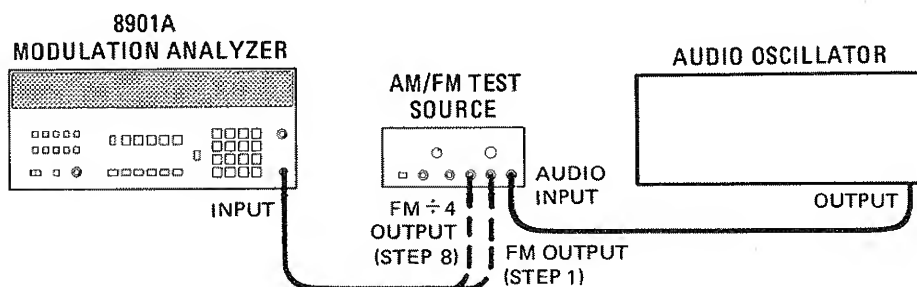

Figure 5-5. FM Distortion and Incidental AM Adjustment (1.5 MHz IF) Test Setup
1. Connect equipment as shown in figure 5-5.